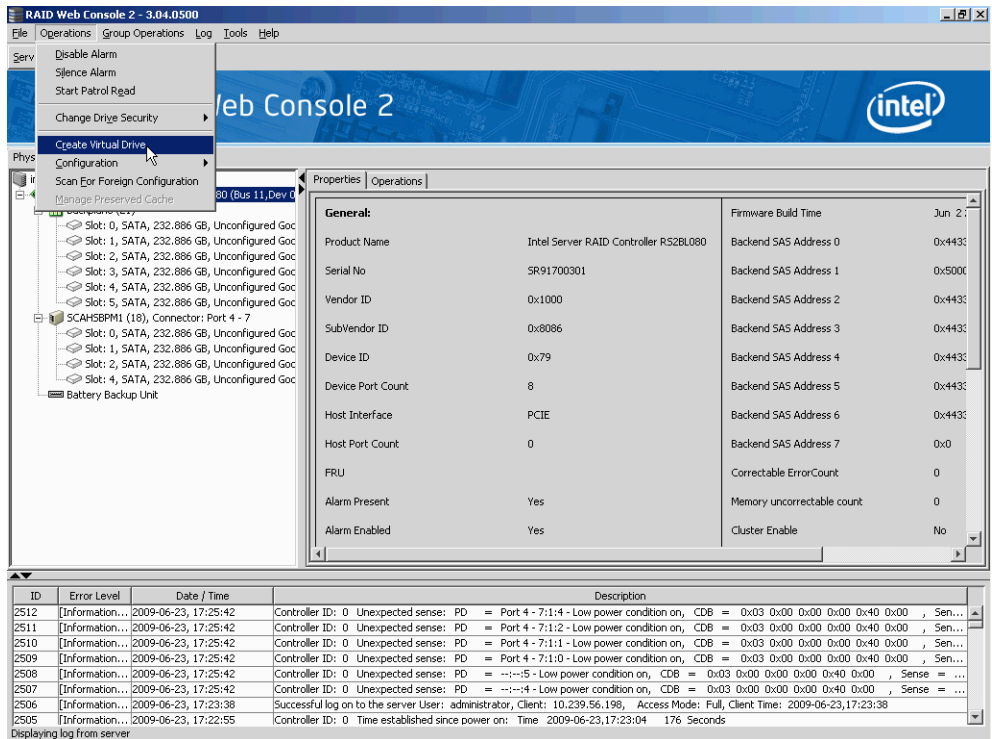

Figure 40. Virtual Drive Creation Menu
- Select the controller node and select Operations->Create Virtual Drive in the menu bar, as shown in Figure 40